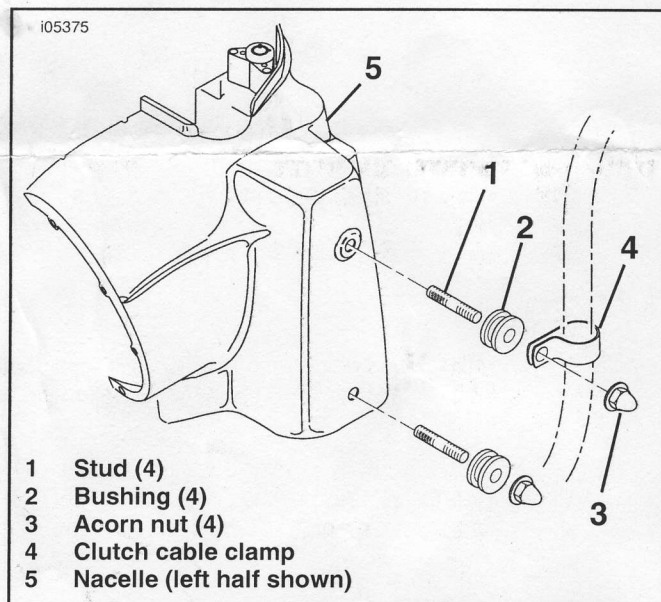

Figure 1. Windshield Mounting Hardware Installation
2. See Figure 1. Obtain a double-ended stud (1) and chrome acorn nut (3) from the kit. Thread the nut onto the NON lock patch side of the stud and hand tighten.